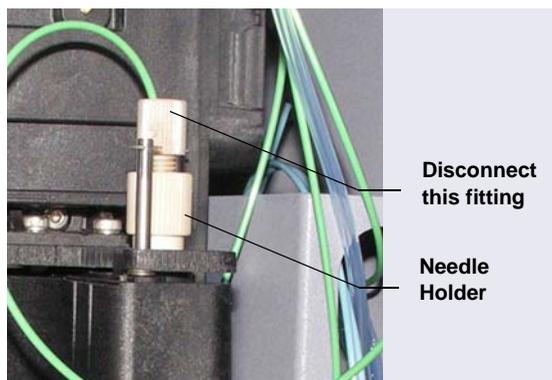

Figure 5-1. Liquid Line Connected to the Needle
3. While holding the needle holder (see Figure 5-1) to prevent twisting of the needle, disconnect the liquid line from the needle.